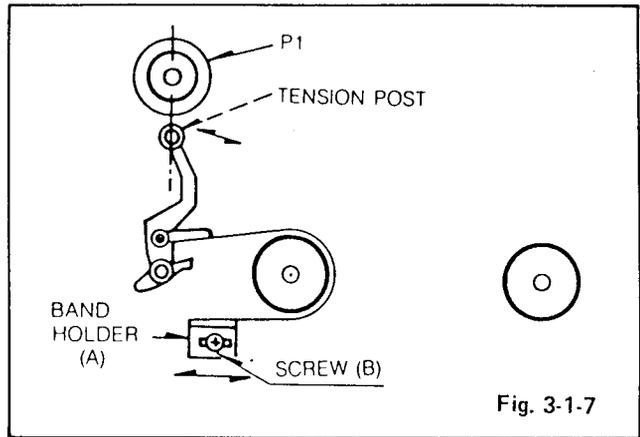

Fig. 3-1-7
- Set the tension post position adjusting JIG on the deck and loosen the screw (B) a little as shown in Fig. 3-1-7.